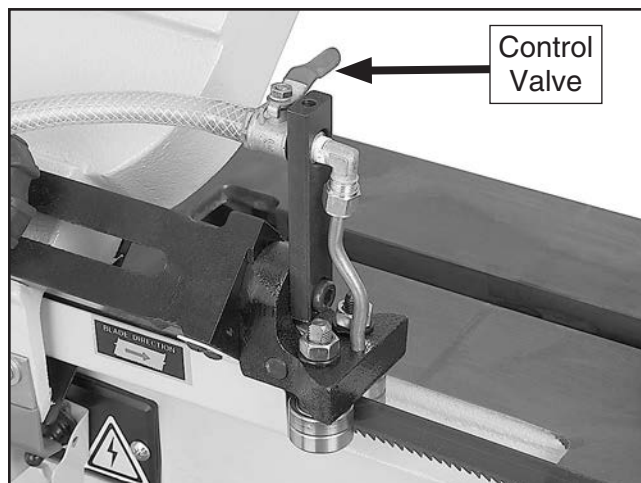

Figure 27. Location of coolant control valve.
3. Open coolant control valve (see **Figure 27**).